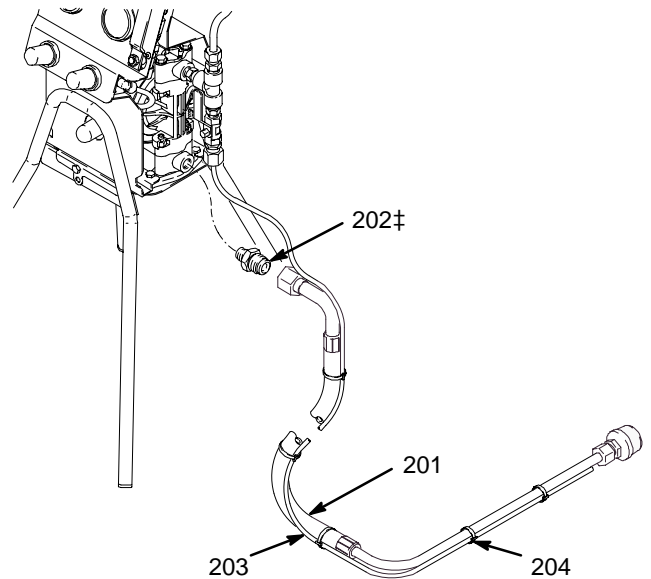

Fig. 4
The Suction Kit, listed above, can be installed for drawing fluid from a container that is not directly under the unit. Install the Suction Kit as follows (see Fig. 4):
1. Remove the following parts from the stand unit: recirculation tube (28), suction tube (3), male connector (44), and suction line strainer (43). See the **Parts Drawing** on page 13.
2. Apply thread sealant (specified in Fig. 4) to the threads of the nipple (202).
3. Thread the nipple (202) into the pump inlet.
4. Thread the fitting of the suction tube assembly (201) onto the nipple (202).
5. Install the new, longer recirculation tube (203) in place of the old one.
6. Bundle the new suction tube (201) and recirculation tube (203) with the wire ties (204).